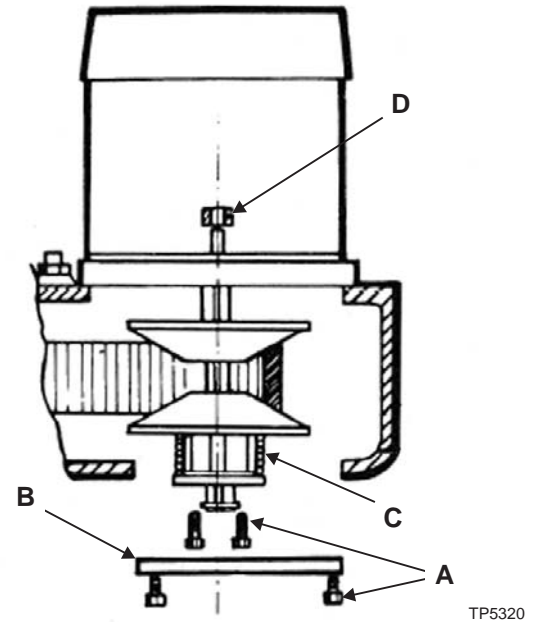

Figure 8.1 - Motor Removal
3. Remove three screws "A" and cover "B", Figure 8.1.